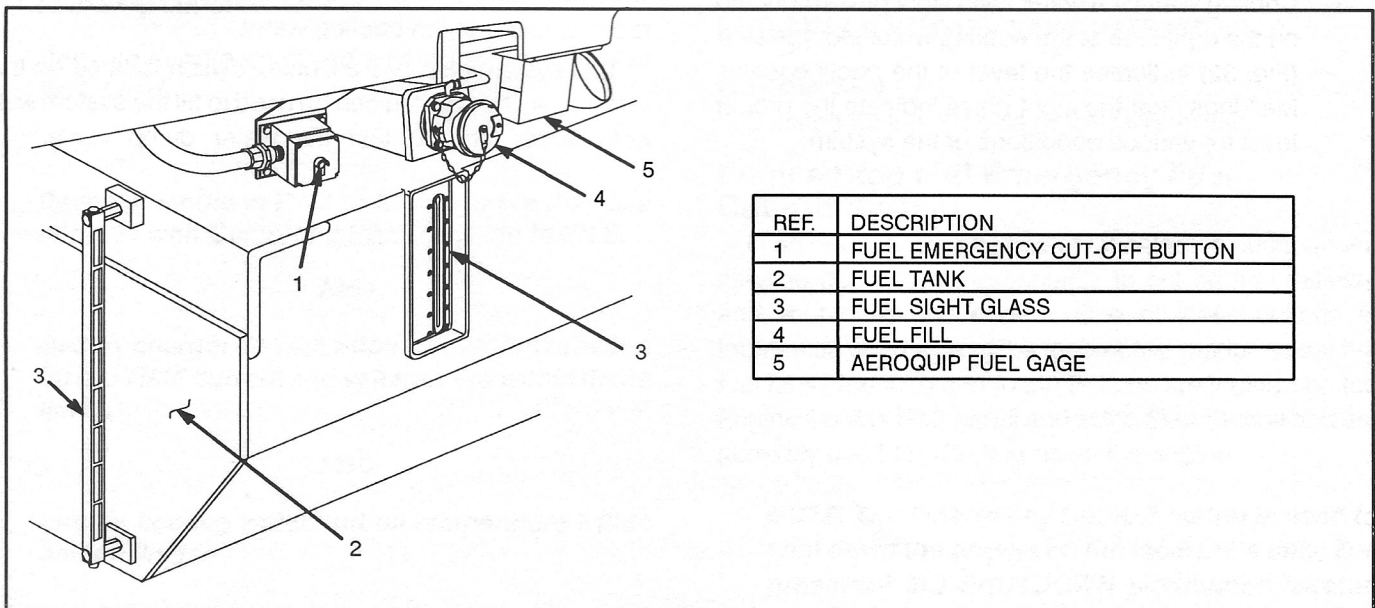

FIG. 34. "A" SIDE OF FUEL TANK (TYPICAL). E-39001.
2. Fuel–Oil Sight Glasses – Mounted on both sides of the main fuel tank (Fig. 34) to indicate the level of fuel in the tanks.